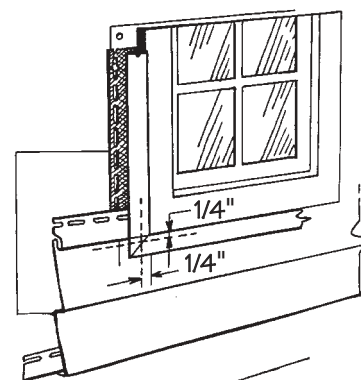

Figure 40.
- Hold the panel under the window and mark the width of the window opening on the panel. Add approximately $\frac{1}{4}$ " to both sides to allow for expansion and contraction of the siding. These marks represent the vertical cuts (Fig. 40).